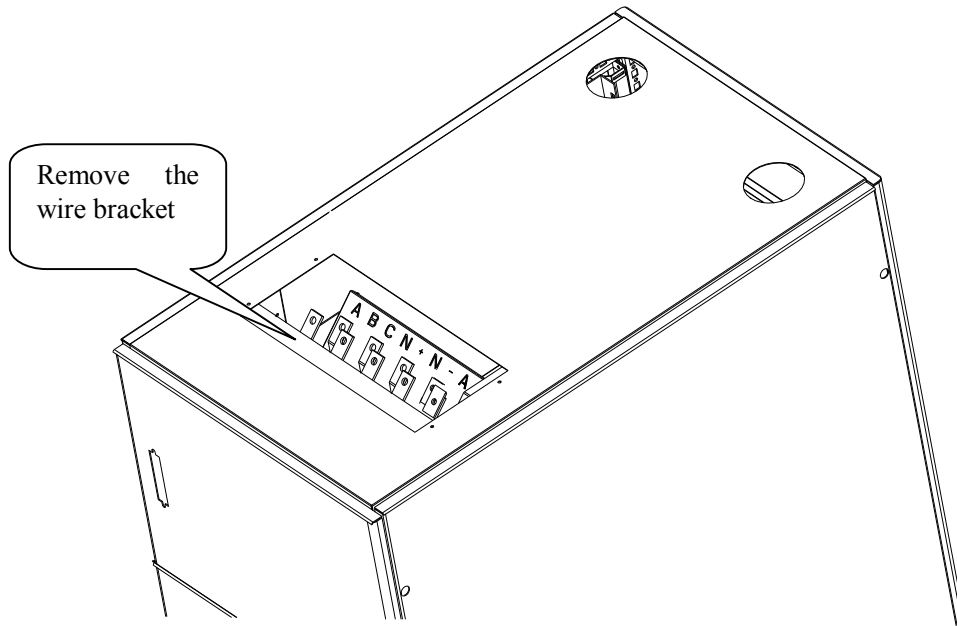

Fig. 6.3
1. Remove the screws used for fixing the wire bracket with a cross screwdriver to remove the wire bracket (Fig. 6.3) .